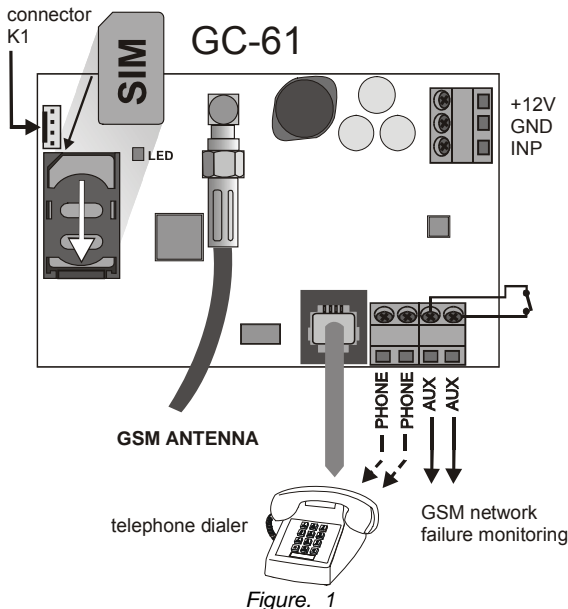

Figure. 1
- Open the SIM card holder** (by sliding it in the direction shown in the figure 1 below and **insert the SIM card** into the holder and **close it** by sliding it back).
- The AUX output is switched on if the GSM network is not available for 15 minutes. AUX can be used as an alarm terminal. (normally open dry contact, max. 100mA / 60V) – see the figure 1